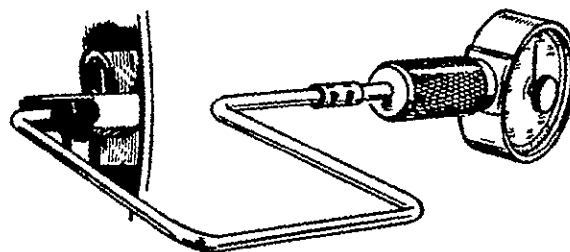

FIGURE 55. MEASURING BRUSH SPRING TENSION
**Inspection for Brush Spring Tension:** Measure brush spring tension with a tension meter, Figure 55. Push the brush into its holder and take the reading just as the brush slightly projects from the brushholder. On a new brush the spring tension should be 49 to 59 ounces (1.37-1.65 kPa) for engines begin Spec J, and 29 to 38 ounces (0.81 to 1.06 kPa) for Spec G engines.